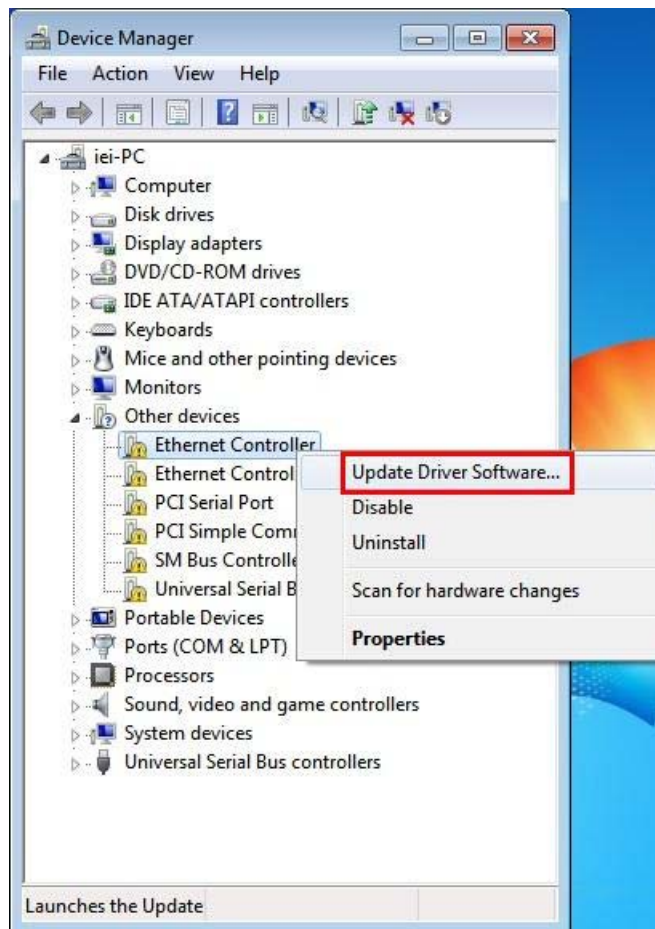

Figure 6-15: Device Manager List
- Step 4:** A list of system hardware devices appears (**Figure 6-15**).
- Step 6:** Select **Update Driver Software**. See **Figure 6-15**.
Step 13: Right-click the other Ethernet controller that has question marks next to it as shown in **Figure 6-15**. Repeat **Step 6 ~ Step 12** to install the second Ethernet controller driver.